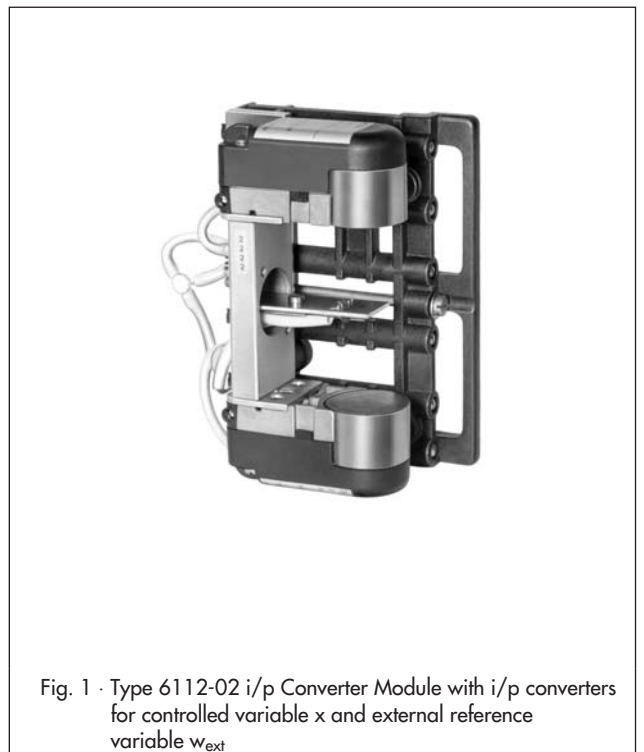

Fig. 1 · Type 6112-02 i/p Converter Module with i/p converters for controlled variable  $x$  and external reference variable  $w_{ext}$
**Type 6112-02** (Fig. 1) · i/p converter module for installation in Type 3431 and Type 3432 Controller Stations